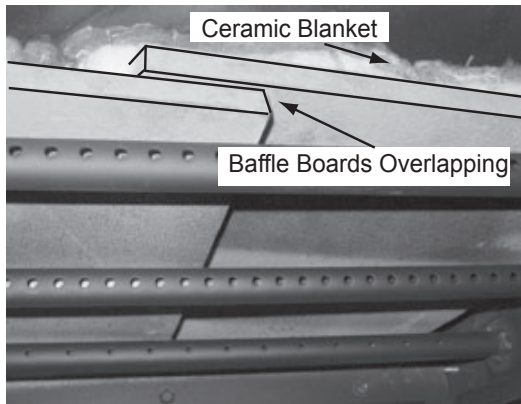

Figure 26.1
3. Once the baffle protection cover has been removed, pull the baffle boards and ceramic blanket forward about 1 inch (25mm) and then overlap the baffles about 1-2 inches (25-51mm) (**Figure 26.1**).